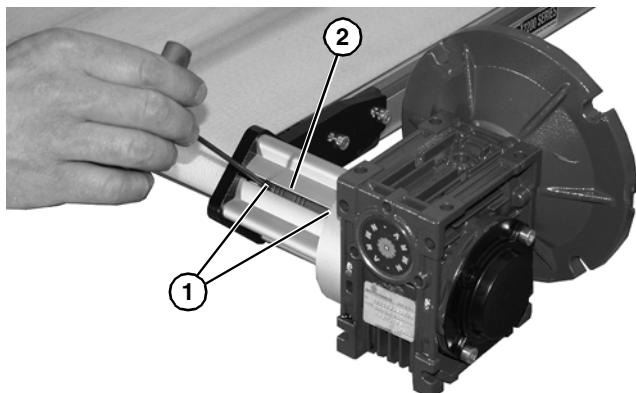
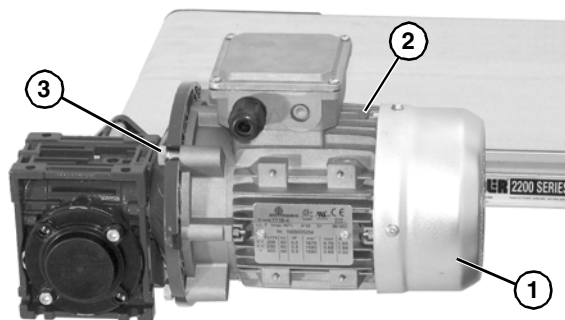

Figure 22
Figure 23
4. Remove fan guard (**Figure 23, item 1**), and rotate fan to align set screws (**Figure 22, item 1**) with access slot (**Figure 22, item 2**). Tighten to 32 in-lb (3.7 N-m). Repeat for second set screw.
5. Apply anti-seize compound to motor shaft before assembling to gearbox. Install motor assembly (**Figure 23, item 2**) and secure with four bolts (**Figure 23, item 3**).
1. Remove fan guard (Figure 23, item 1) and rotate fan to align set screws (Figure 22, item 1) with access slot (Figure 22, item 2). Loosen set screw. Repeat for second set screw.